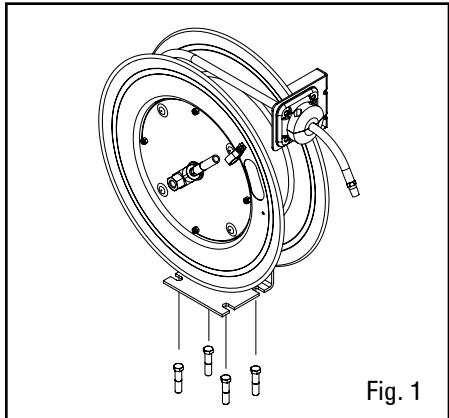

Fig. 1
3. Secure into place using four (not included) bolts (fig. 1). Depending on where the reel is placed, it may be necessary to adjust the hose bumper and guide arm to use the hose properly.